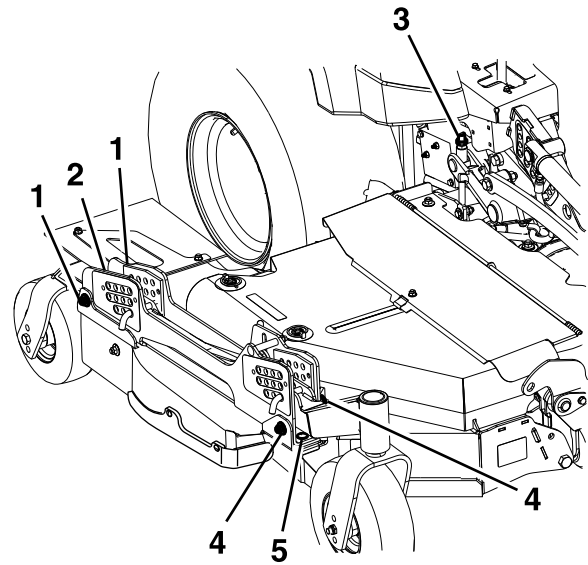

Figure 74
- If the deck is too low, tighten the front height-adjustment bolt (Figure 74) by rotating the bottom nut clockwise.
- If the deck is too high, loosen the front height-adjustment bolt (Figure 74) by rotating the bottom nut counterclockwise. Fine-tune the rear adjusters as required.
Adjust the rear wheel height (Figure 74) so that the rear wheel lightly touches the ground with minimal pressure.
3. The left and right wing decks have blade height adjustments with front and rear adjustment points. To adjust the wing-blade height, first loosen the front and rear height-of-cut hanger mounting nuts. There are 4 locations (2 on each side of the channel) as shown in Figure 74.
4. Measure the back of the wing blades. If either has less than 1.5 mm (1/16 inch) rake, raise the rear of the deck by tightening the left and right rear adjustments (Figure 74) until all 4 blades have a minimum of 1.5 mm (1/16 inch) rake. Adjust the rear wing wheels so that they lightly touch the ground with minimal pressure. Tighten all 4 rear hanger-mount locations (Figure 74).